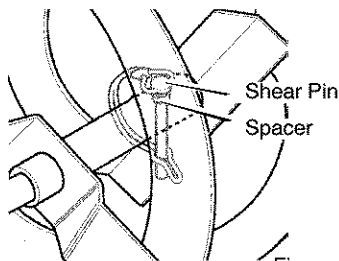

Figure 36
3. Align the hole in the auger with the hole in the auger shaft. Install the new **shear pin** and **spacer**. See Figure 36.